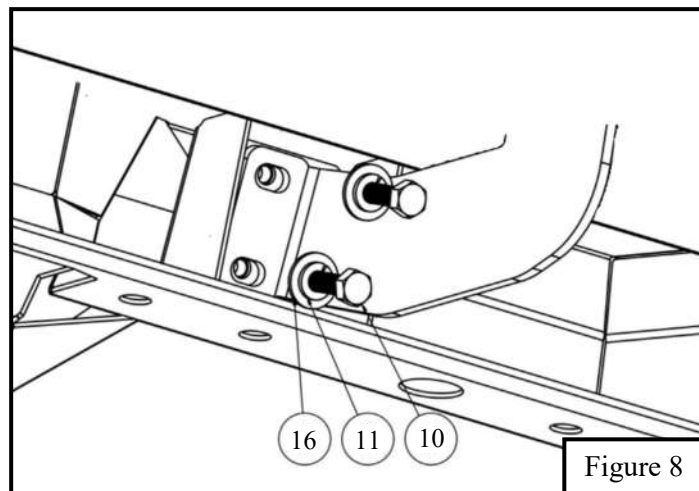

Figure 8
8. Loosely Install step bars respectively to either side using the M8 hardware provided with the step bars. See **Figure 8**